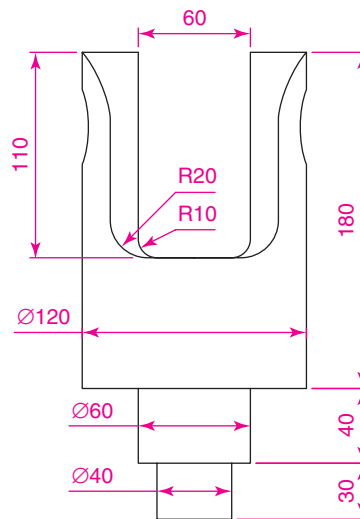

Fig. 7.2 The front view of the solid
1. Draw what is seen when the solid is viewed from its left-hand side and regard this as the **front** of the solid. What is drawn will be a **front view** (Fig. 7.2).